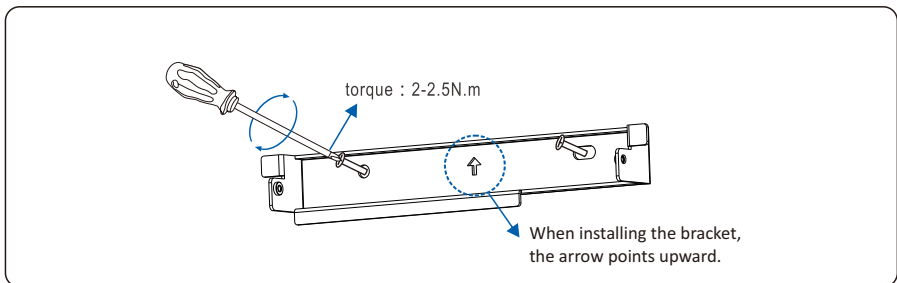

Figure 4.13 Installing the rear panel
**Step 5** Align the rear panel with the holes, insert expansion bolts into the holes through the rear panel, and tighten the expansion bolts to a torque wrench (torque 2-2.5 N·m), as shown in Figure 4.13.